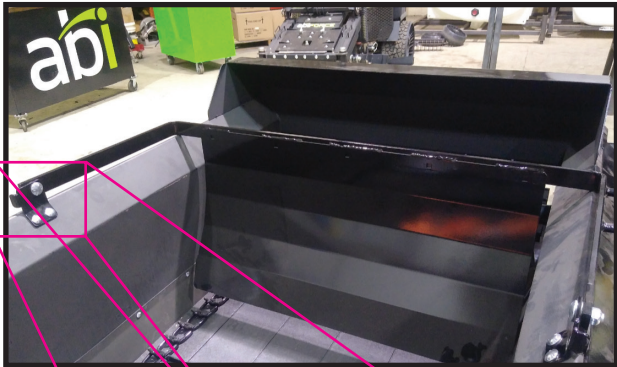

Fig 19.
19. Insert the bolts from the top side and then install the lockwashers and nuts from underneath. Once you have all 4 bolts in place, tighten down the nuts using a 9/16" wrench (or socket set). (**Fig 19**).